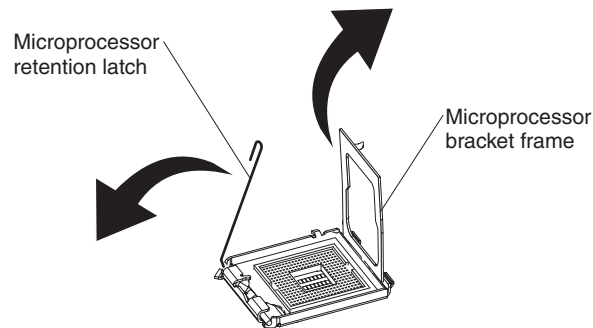

Figure 53. Microprocessor bracket frame
9. Release the microprocessor retention latch by pressing down on the end, moving it to the side, and slowly releasing it to the open (up) position (see Figure 53).
10. Open the microprocessor bracket frame by lifting up the tab on the top edge (see Figure 53).